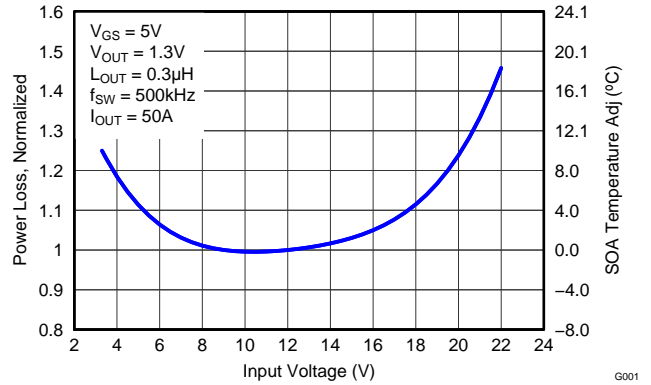

Figure 7. Normalized Power Loss vs Input Voltage
- Normalized Power Loss for input voltage ≈ 1.03 (Figure 7)
- SOA adjustment for input voltage $\approx 1.3^\circ\text{C}$ (Figure 7)